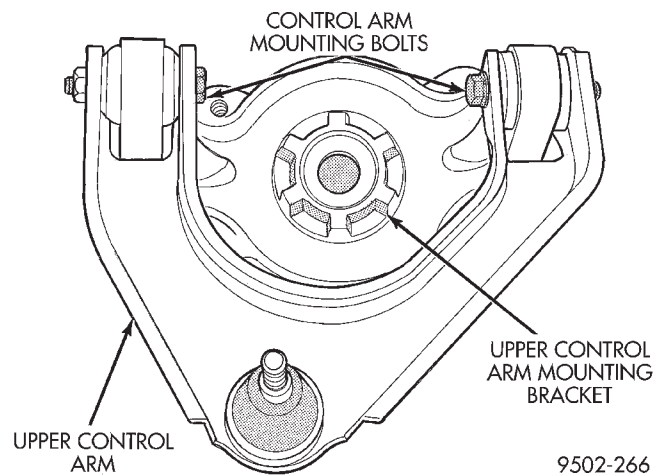

Fig. 49 Upper Control Arm To Mounting Bracket Attachment
(1) Remove the front shock assembly from the vehicle. Refer to SHOCK ASSEMBLY (FRONT) in this section for the required procedure.
(2) Disassemble the shock assembly until the upper (shock absorber/upper control arm) mounting bracket is removed from the coil spring. Refer to SHOCK ASSEMBLY (FRONT) in the DISASSEMBLY AND ASSEMBLY section of this group for the required procedure.
(3) Remove the 2 bolts attaching the upper control arm to the bushings in the upper mounting bracket (Fig. 49).
(1) Install the upper control arm on the upper (shock absorber/upper control arm) mounting bracket.
(2) Install the 2 bolts attaching the upper control arm to the bushings in the mounting bracket (Fig. 49). The bolts must be installed from center, so the heads are toward the coil spring when it is installed. **Bolts MUST be installed so the head of the bolt will be toward the coil spring when the mounting bracket is installed on shock absorber (Fig. 49).**